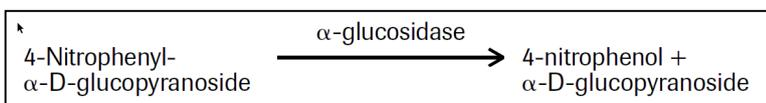

Fig. 3: α -Glucosidase test principle.
- 4 During a 2 hour incubation at +37°C, the α -glucosidase containing sample will liberate 4-nitrophenol from the substrate 4-nitrophenyl- α -D-glucopyranoside according to the equation in Figure 3.